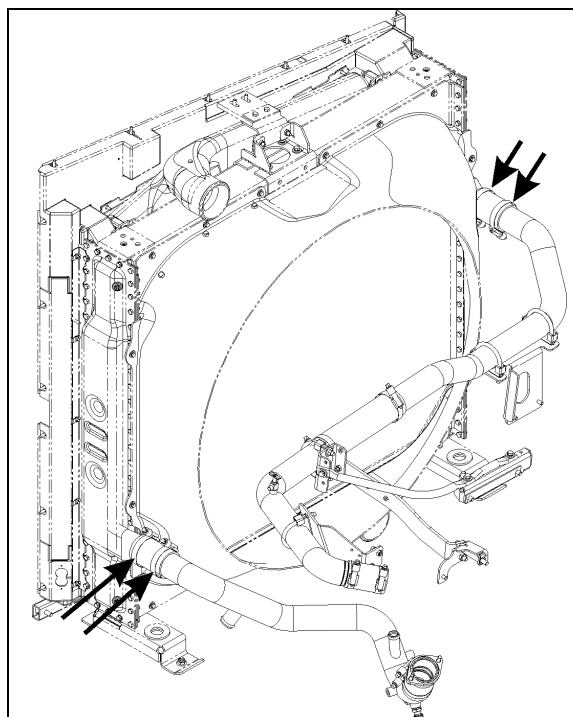

FIGURE 13: RADIATOR HOSE CLAMPS
10. Remove clamps and then break hoses from the front coolant and charge air pipes (Fig. 13 & 14).
11. Remove rear coolant and charge air hose clamps then break hoses loose (Fig. 13 & 14).